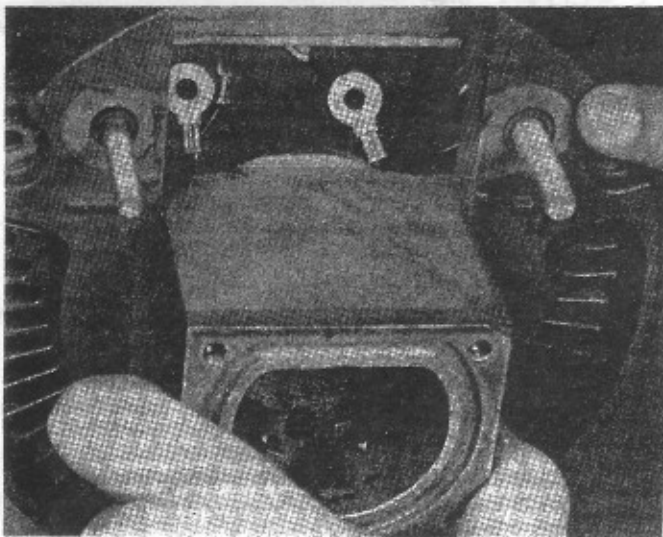

Figure 30
- 3.23 Insert 1/4" ID and 5/16" ID insulation bushings in housing so they fit around the negative and positive output terminals. Install bushings flush with housing. Fig. 30.